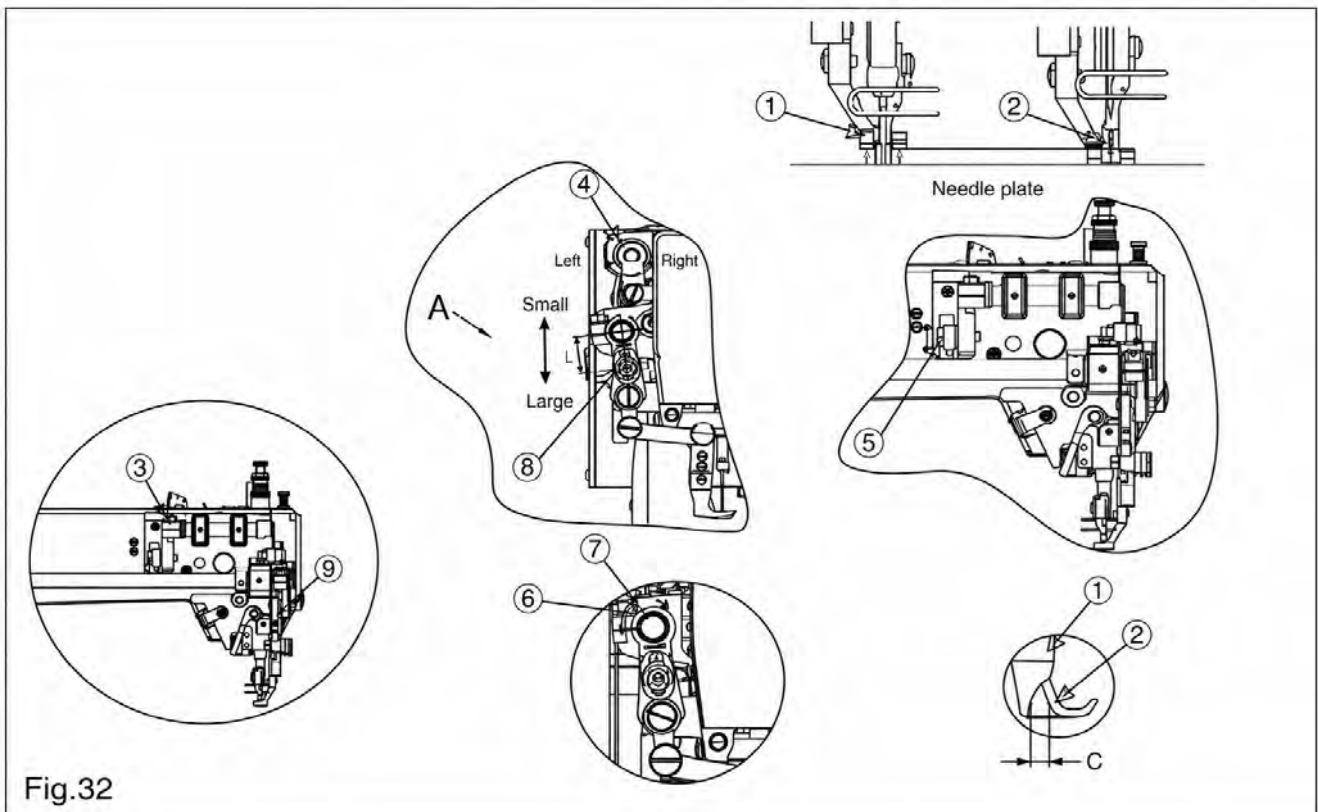

Fig.32
26. Adjusting the lifting amount of presser foot (Fig.32)